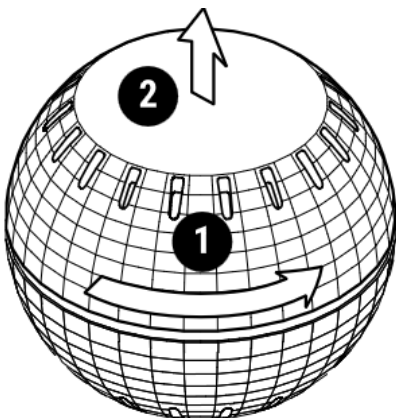

Fig.1
1. Remove the Device bottom shell by turning it counterclockwise as shown on Fig. 1.